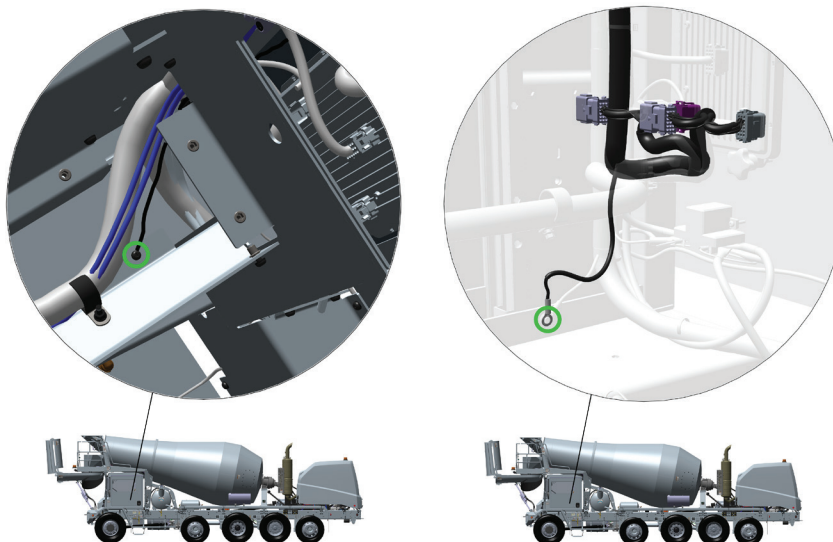

Figure 14
26. Route jumper harness ground through bottom of electrical cabinet into side console. See Figure 14
- a. Loosen and remove existing console hex bolt. See Figure 14.
- a. Loosen and remove existing ground bolt with ground connections and nut. See Figure 14.